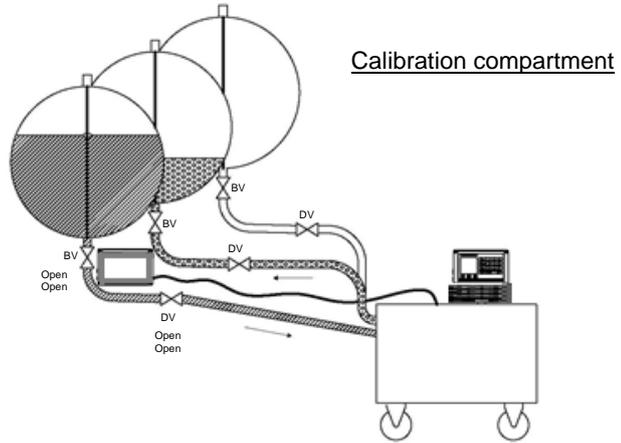

Figure 2: calibration system
- ☐ The compartments are calibrated using a calibration system. (Figure 2). Only **water** should be used as a medium, as only this can be detected by the calibration unit and therefore a volume determined.